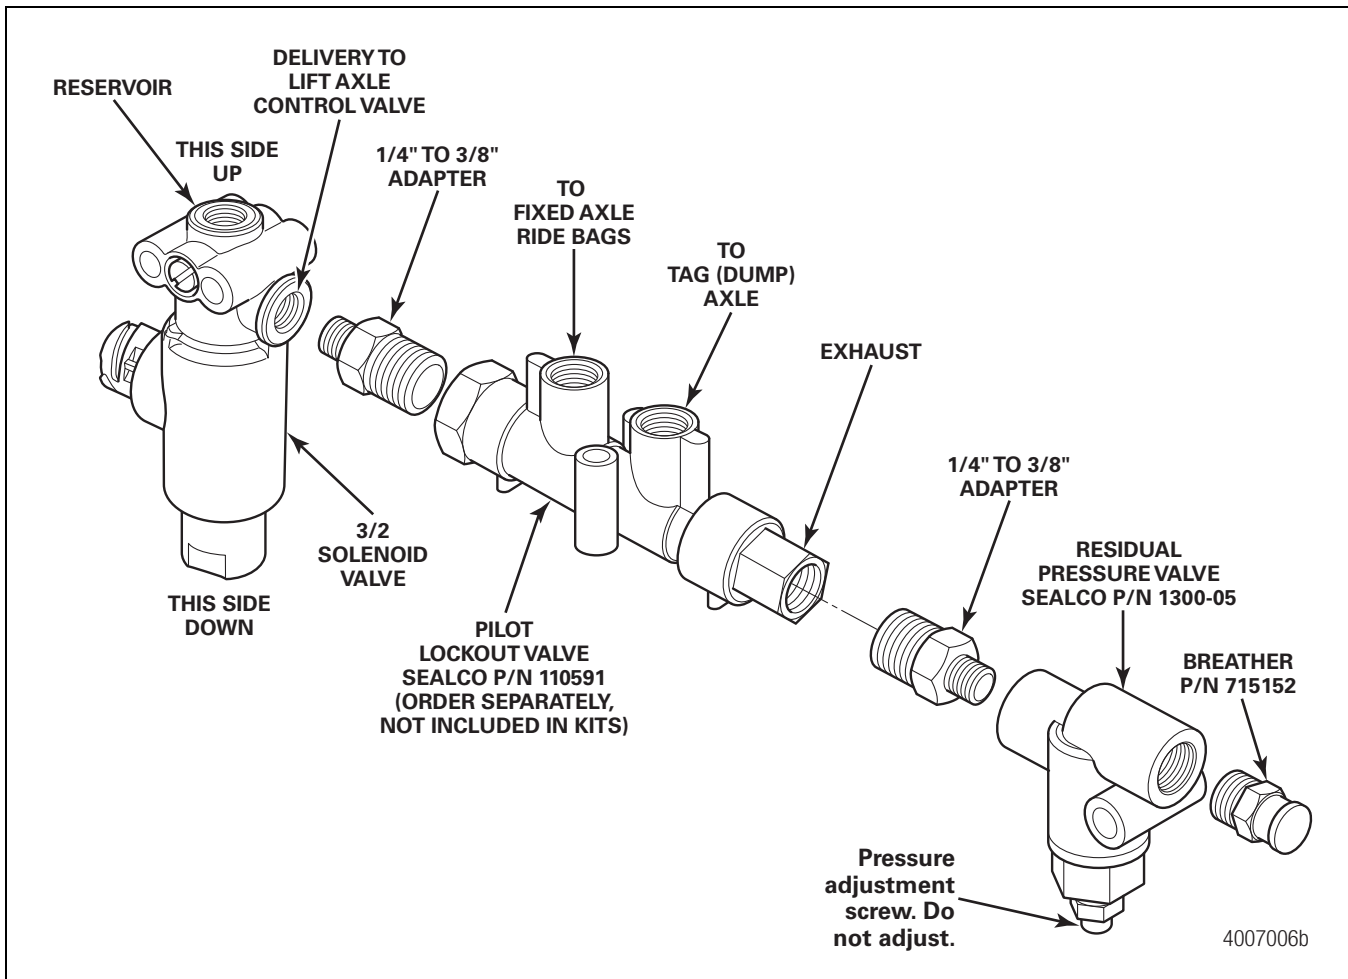

Figure 8
12. Ensure that the solenoid valve is installed correctly. Figure 8.
Ensure the thread sealant does not enter inside any of the ports as it could damage the solenoid valve and affect system performance. Figure 8. Damage to components and serious personal injury can result.
13. Apply a thread sealant and install the 1/4-inch to 3/8-inch adapter fitting from the solenoid valve to the pilot lockout valve, SEALCO part number 110591. Figure 8.
- Optional: Install the residual pressure valve (SEALCO part number 1300-05) to prevent air bag damage. This will allow 5 psi (0.34 bar) of air to remain in the air bags of the tag axle. Figure 8.